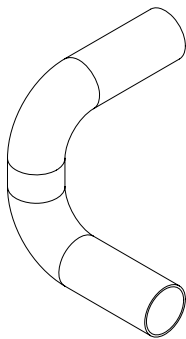
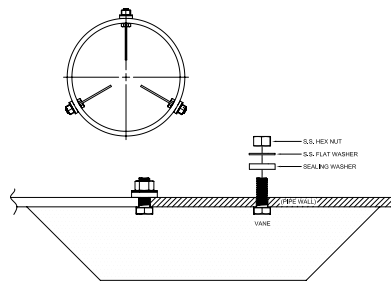

Figure 7. Elbows out of plane
Figure 8. Bolt-in straightening vanes
5. Start tightening down the nuts ***evenly in a diagonal or figure 8 pattern.***
Special attention should be given to systems using two elbows “out of plane” or devices such as a centrifugal sand separator. (See Figure 7.) These cause swirling flow in the line that affect propeller meters. Well developed swirls can travel up to 100 diameters downstream if unobstructed. Since most installations have less than 100 diameters to work with, straightening vanes become necessary to alleviate the problem. (See Figure 8.) Straightening vanes will break up most swirls and ensure more accurate measurement.